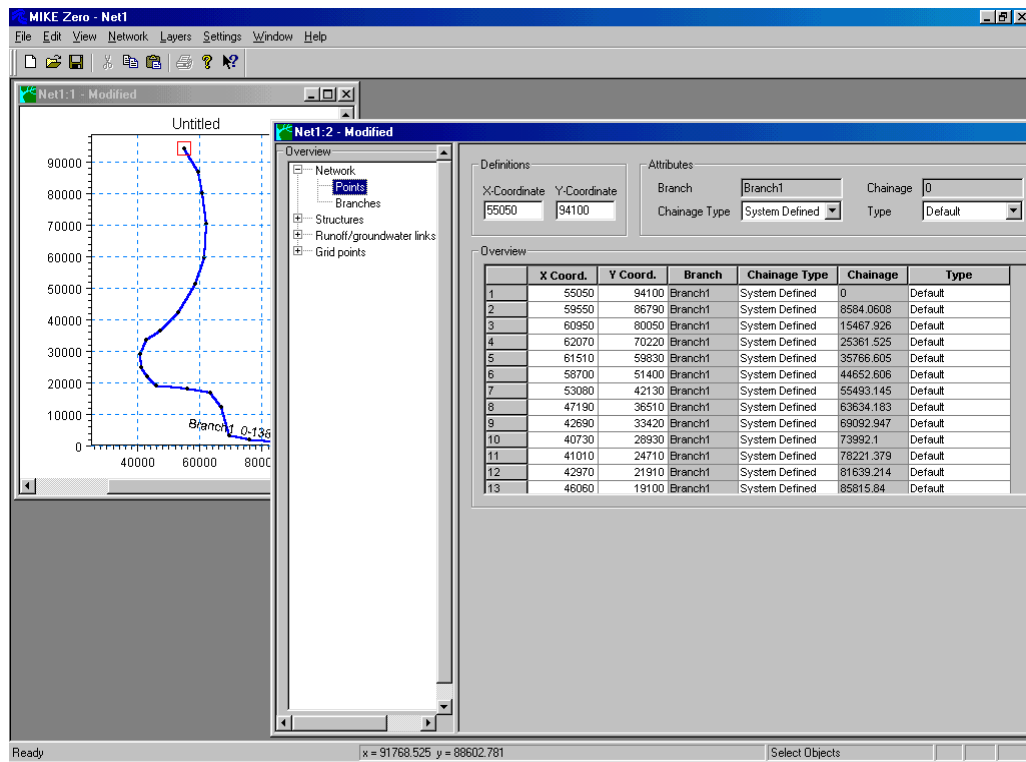

Figure 78: Graphical and Tabular view, Network editor
2) Select the Tabular View in the 'View' menu and change to the Points page of the tabular view as shown in Figure 78. This page contains information about each point and allows the user to change the chainage type and value. The graphical and tabular views are linked such that the highlighted points in the each of the views are always the same.